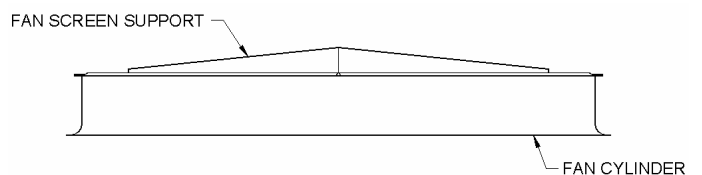

Figure 18 - Support Frame Installation
1. Set the support frame across the top of the discharge cylinder (See Figure 18).